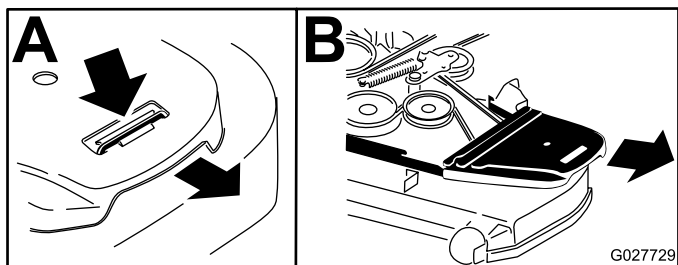

Figure 60
7. Remove the belt covers (Figure 60).